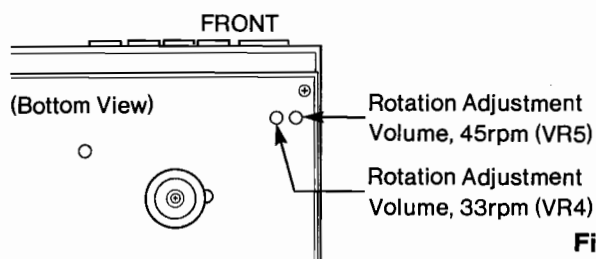

Fig.3
2. Using a stroboscope sheet, adjust VR5 on the Control PCB so that the rotation matches up (see Fig.3).